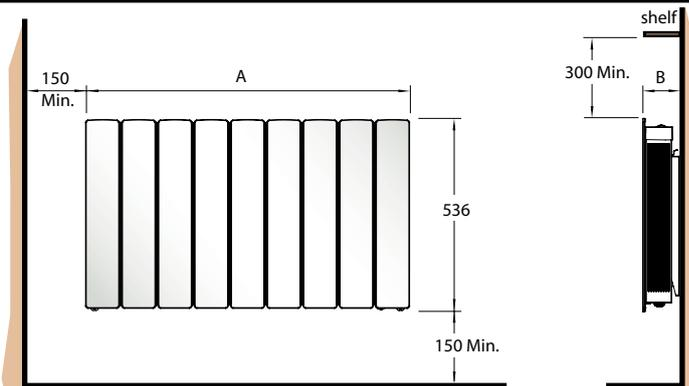
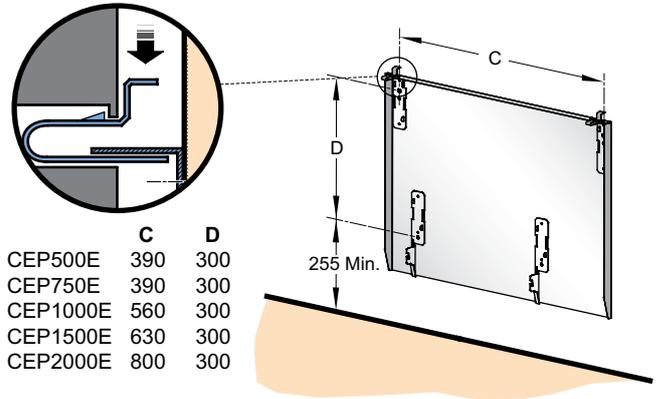

Fig. 1
Fig. 2
The heater is designed for wall mounting on the wall bracket supplied. It should only be operated when in the upright position as shown - see Fig. 1.
**IMPORTANT** – The wall bracket supplied with the appliance must be used. The heater should be positioned observing the minimum clearances stated around the heater - see Fig. 1 and Fig. 2.
1. Remove wall mounting bracket from the back of the heater by depressing the spring latch at the top of each bracket - see Fig. 2.
To release the heater from the wall bracket for cleaning or redecoration, depress the latch on each bracket (see **Fig. 2**) and hinge forward.